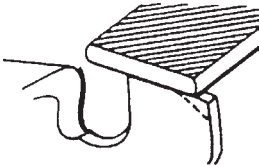

Fig. 41
- 4) Round off front corner to maintain original shape of depth gauge after using depth gauge tool. Always follow the recommended depth gauge setting found in the maintenance or operator manual for your saw. (Fig. 41)